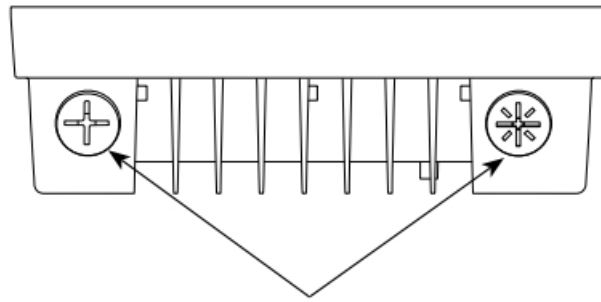

Fig: 5
1. Remove Selector Switch Caps by turning counter clockwise using a flat head screwdriver Fig. 5.